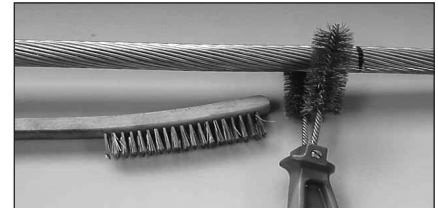

FIGURE 2: Clean the outer strands of the conductor with a wire brush.
2. Prior to making connection, the outer strands of the conductor should be cleaned with a wire brush or abrasive cloth (**Figure 2**).